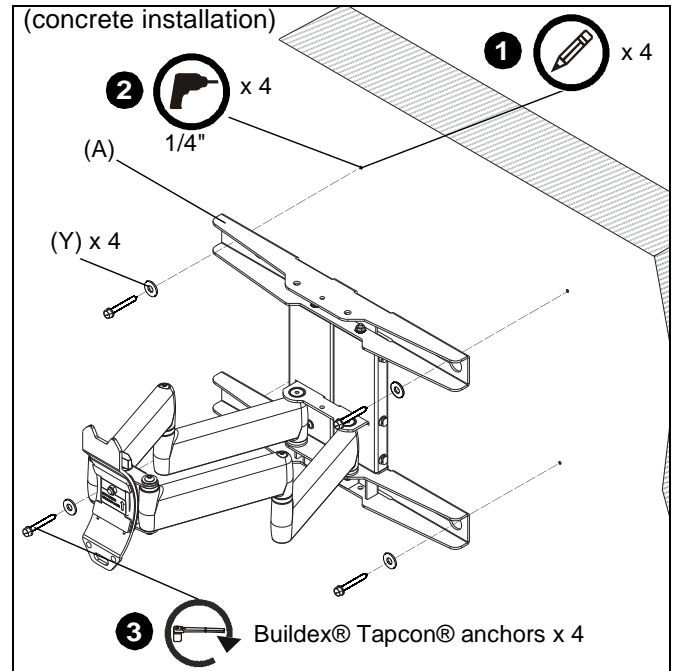

Figure 2
1. Level arm assembly/wall plate (A) and mark locations of pilot holes. (See Figure 2)
2. Drill four 1/4" pilot holes at marked locations. (See Figure 2)
3. Install four Buildex® Tapcon® anchors through four flat washers (Y), arm assembly/wall plate (A), into drilled holes. (See Figure 2)